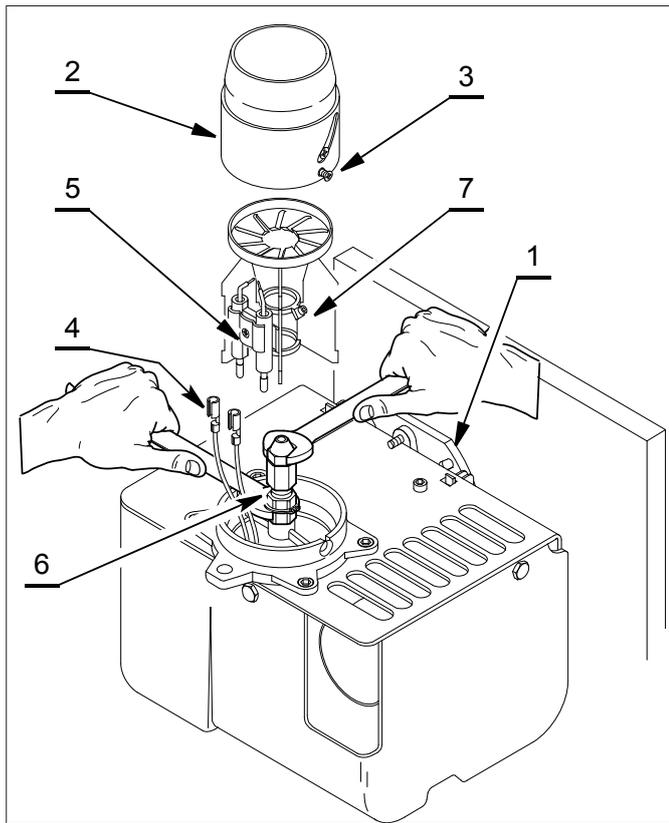
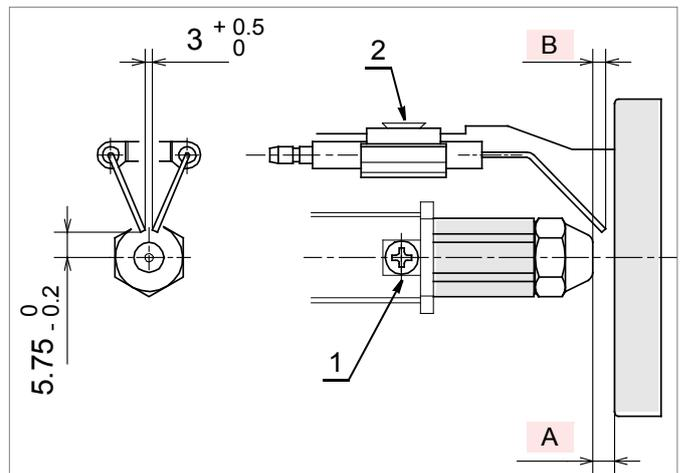
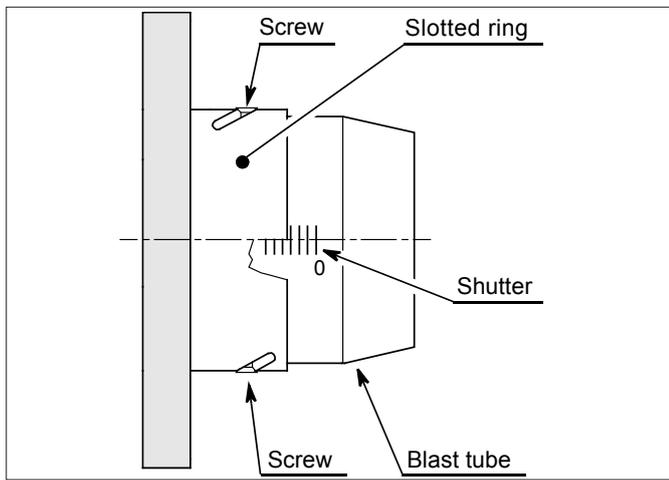

Figure 10-6: Riello RDB 3.2 burner head, diffuser and nozzle holder
Figure 10-7: Ignition electrode settings
Figure 10-8: Riello RDB 3.2 combustion head adjustment
1. Remove the burner head. Refer to Figure 10-6. Loosen both fixing screws (3) and remove head from burner (2).
3. If the nozzle needs to be replaced - Remove the diffuser/electrode assembly. Refer to Figure 10-6.
- Loosen the diffuser clamp screw (7) and remove the diffuser/electrode assembly from the nozzle holder (6). Refer to Figure 10-6
- Disconnect both ignition leads (4) from the electrodes.
7. Check/adjust the diffuser position to give the correct gap (A) between the nozzle and diffuser. Refer to Figure 10-7.
- Slide diffuser along the nozzle holder to give the correct gap (A).
8. Check/adjust the electrode assembly to give the correct gap (B) between the nozzle and electrodes. Refer to Figure 10-7.
- Slide the electrode assembly to give the correct gap (B).
9. Re-fit the burner head. Refer to Figure 10-6.
- Tighten the two screws (3) to secure the head (2) in position on the burner.
- In this case the head is set to '4' (i.e. on the 4th line). Refer to Figure 10-8.
- Loosen the two screws in the curved slots in outer ring of the head (NOT the two head fixing screws). Refer to Figure 10-8.